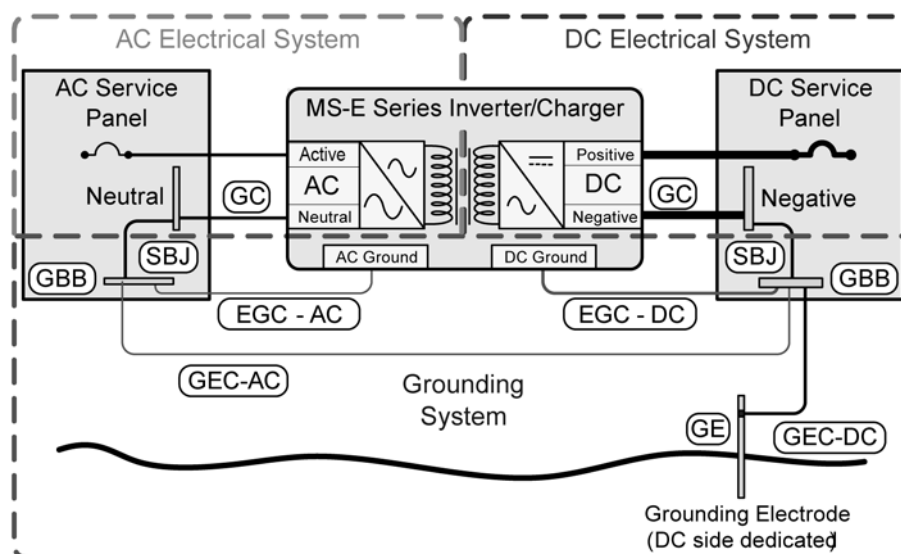

Figure 2-15, Single Connection to DC Ground Rod (Method 3)
Method 3 (Figure 2-15): The AC grounding electrode conductor (GEC-AC) is bonded to the DC ground point and the DC grounding electrode conductor (GEC-DC) is the *only connection* to the grounding electrode (GE), which must be a rod, pipe, or plate electrode.